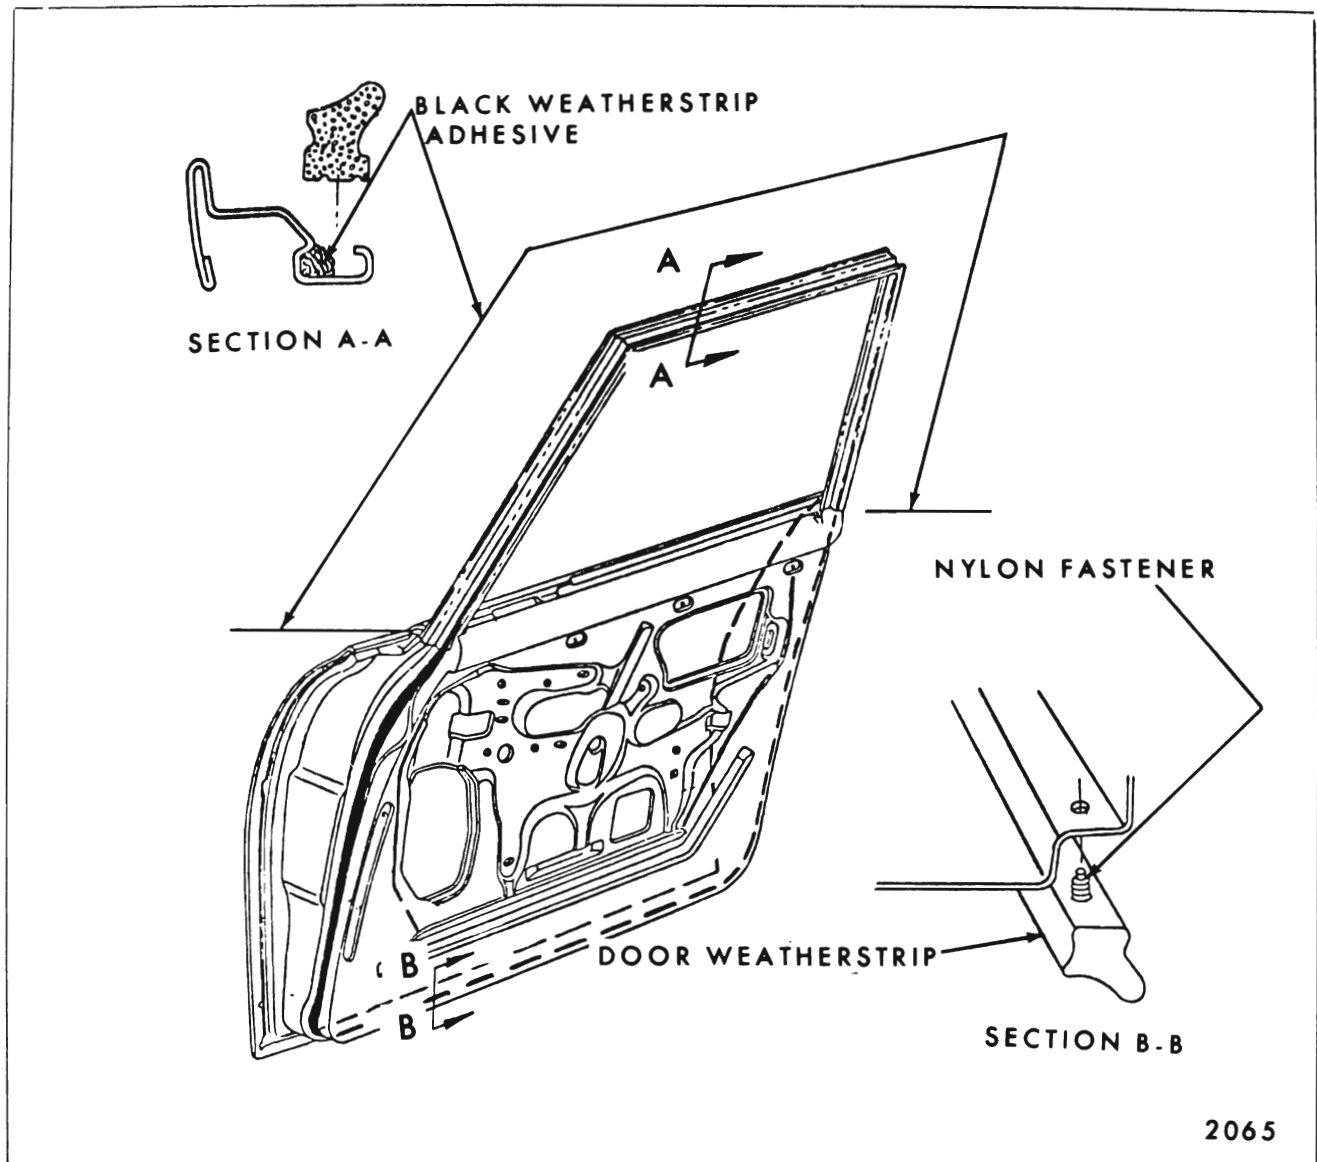
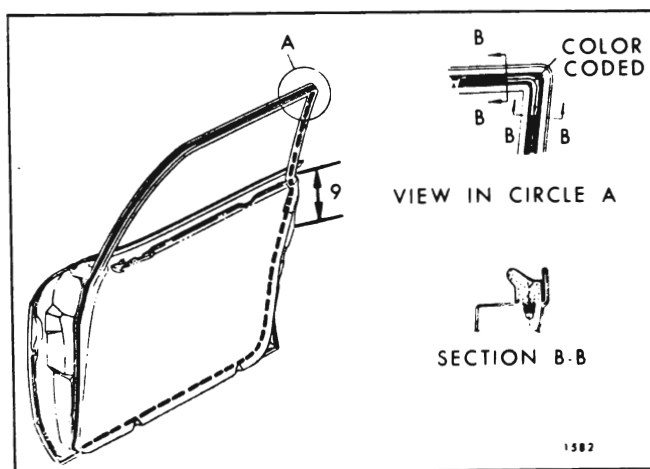

Fig. 6-2—Door Weatherstrip - "A & X" Closed Styles
Fig. 6-4 - Front Door Weatherstrip
On "B" Body Sedan Styles, nylon fasteners are used around the entire perimeter of the door. On "A" and "X" Closed Styles, nylon fasteners are used below the belt line only. Weatherstrip adhesive retains the weatherstrip around the door upper frame above the beltline (Fig. 6-2).
2. On sedan styles, use a flat-bladed tool to break cement bond between door and weatherstrip. On "B" Body Sedan Styles, weatherstrip adhesive is used for a distance of 9" at beltline (See Figs. 6-4 and 6-5). On "A" and "X" sedan styles, weatherstrip is retained by weatherstrip adhesive completely around door upper frame (See Fig. 6-2).
- a. On front doors, color code should be located at rear upper corner of door upper frame (Fig. 6-4).
6. On "A" and "X" Sedan Styles, apply a bead of black weatherstrip adhesive to gutter of door upper frame as shown in section "A-A", Figure 6-2. Allow adhesive to become tacky, then, install weatherstrip.
- a. For 5" around rear upper corner of front door upper frame (Circle "A", Figure 6-4) and 9" down door lock pillar starting at beltline.